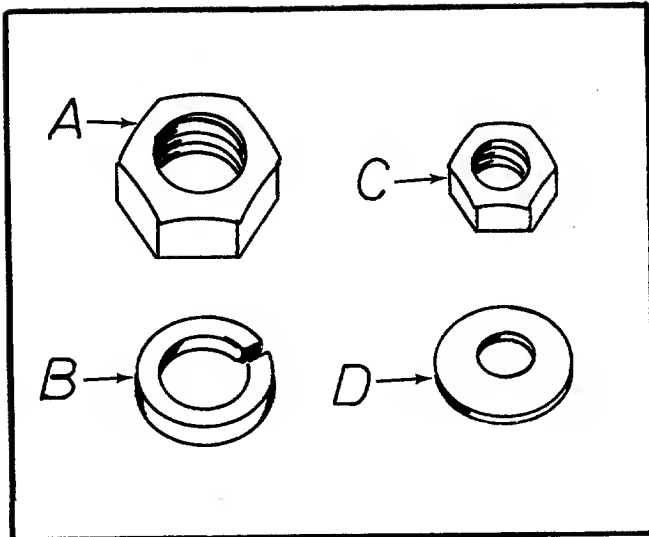

FIGURE 1.
## LIST OF CONTENTS IN HARDWARE PACK: (See Figure 1)
- B. Place seat on spring and secure with lock washer (B) and hex nut (A). See figures 1 and 3.